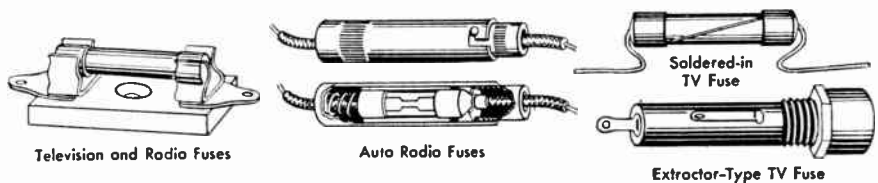

Fig. 3. Types of fuses often found in television and radio sets
**Auto-radio Power Supply.** When a radio is installed in a car, there is usually only one power lead. It runs from some point in the battery system (usually an ammeter terminal) to the radio set itself. This lead is usually a shielded cable which has somewhere in its length a small fuse holder. The two telescoping sections of the auto-radio fuse holder are locked together with a bayonet connection, as in Fig. 3. Inside the cylinders is a glass cartridge-type fuse.